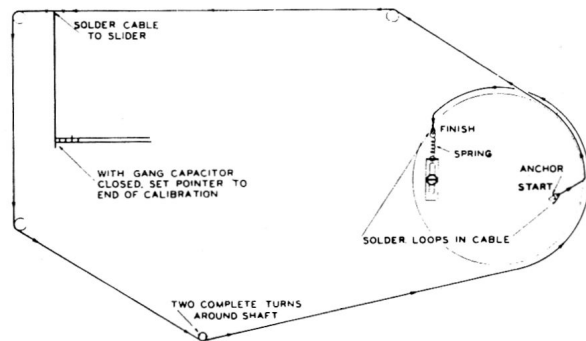

Figure 5.—Indicator Stringing Diagram.
6.—Indicator Stringing (See Fig. 5):—